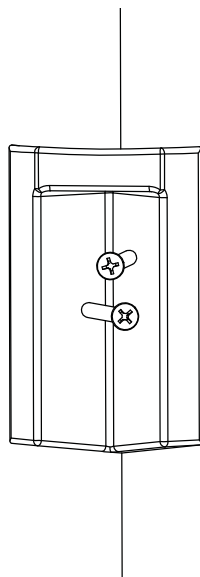

FIG. 2
5. Using 2 - 3" long screws, mount the bracket to the wall. Do not over tighten the screws, too much pressure could crack the wall substrate behind the bracket. *See Figures 2 and 3.*